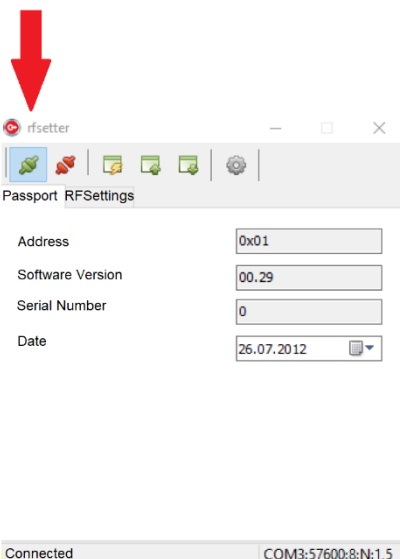

Figure 8. Setup of connection in the “rfsetter” software
2. Open the port (see Fig. 8).